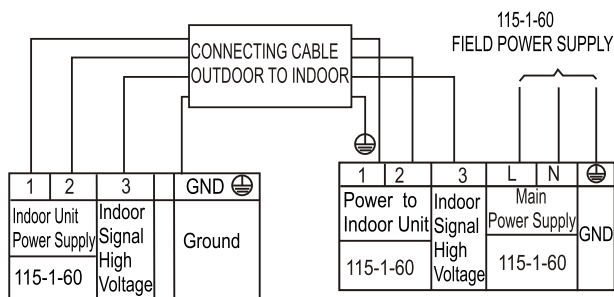
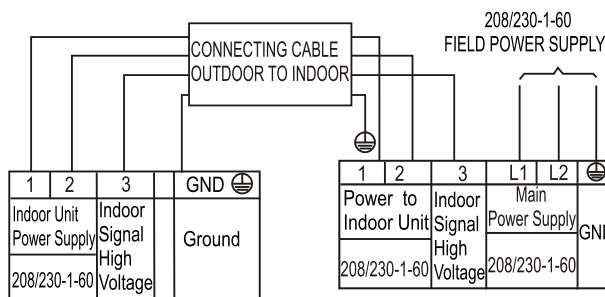

Fig. 18 — Connection Diagram 115V
Fig. 19 — Connection Diagram 230V
9. Connect wiring from outdoor unit per connection diagram (see Fig. 18 and Fig. 19).